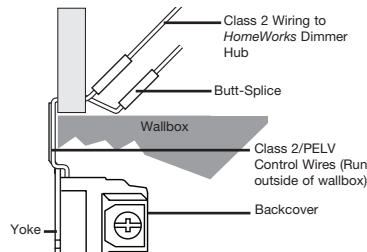

Figure 3: Class 2 Wire Connection
- 4. Crimp the violet and gray wires of the control to the Class 2/PELV wires connected to the HWI-H48. Use the butt splices provided (see Figure 3).